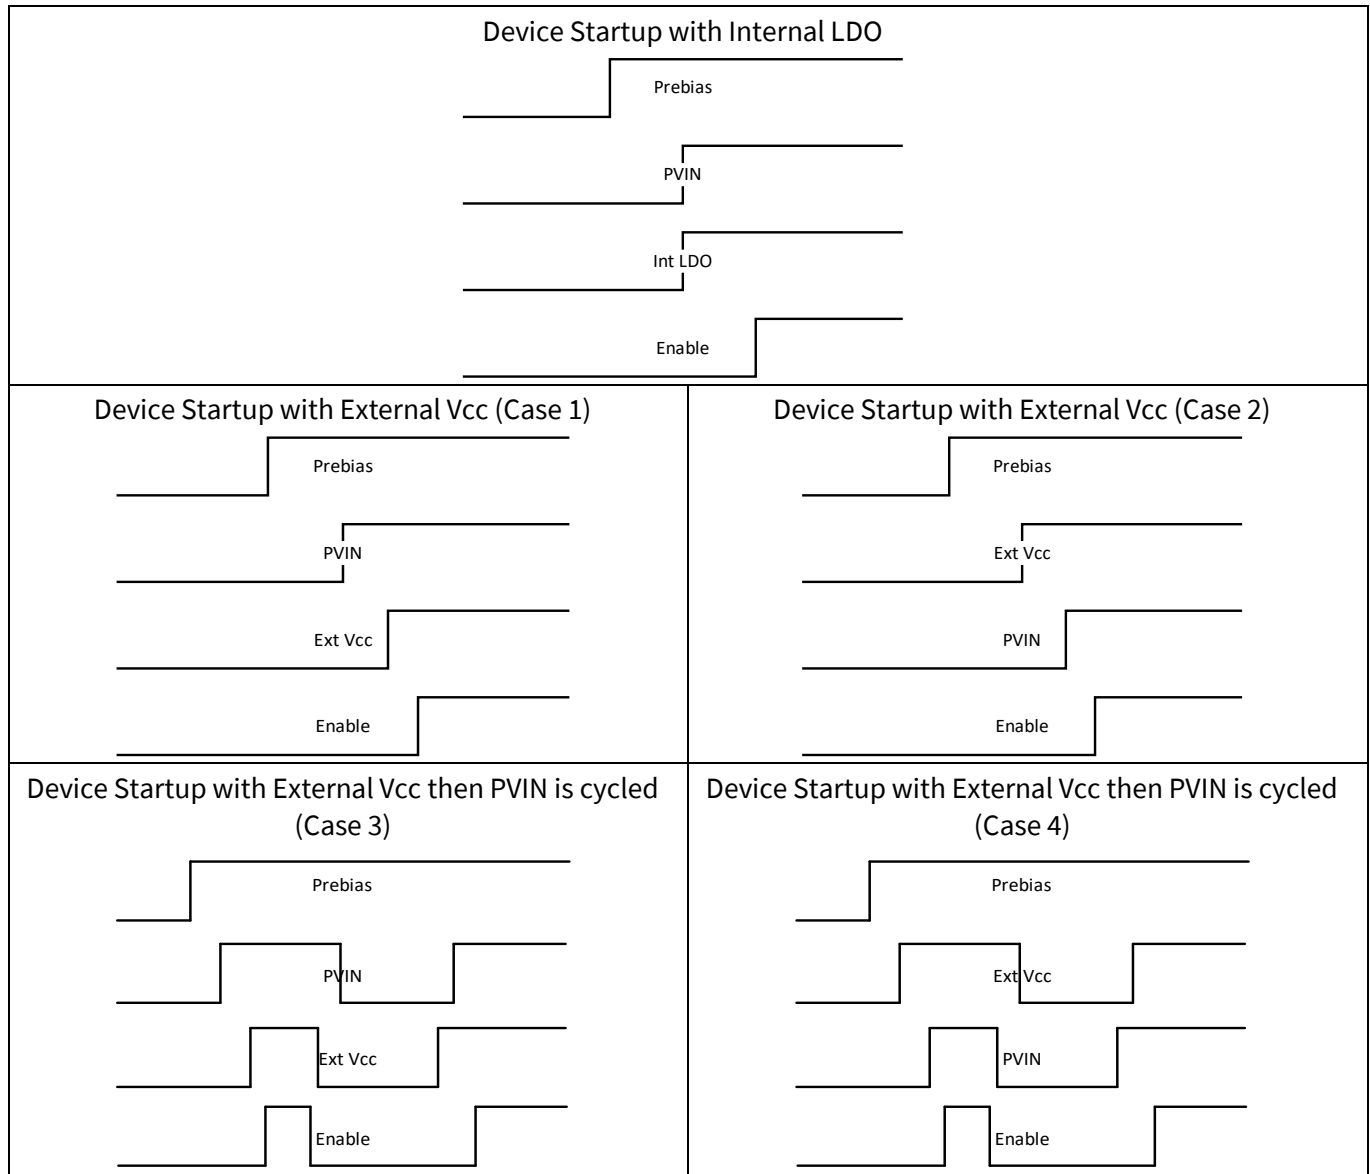

Figure 19 Device power-up sequence.
- Based on whether Vcc is supplied externally or an internal LDO is used, the required power-up sequences are shown in Figure 19 below